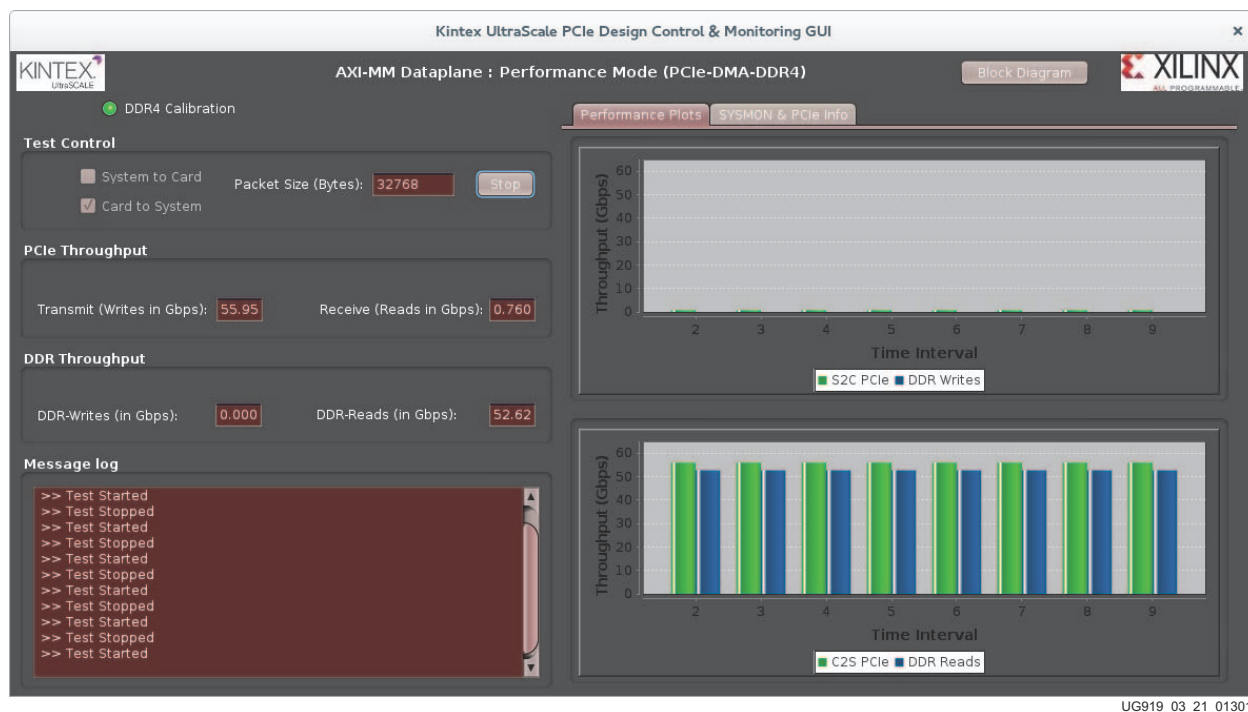

Figure 3-16: Card to System Performance
- b. Data transfer from the FPGA to the Host computer can be started by deselecting the **System to Card** (S2C) Test Control mode and selecting the **Card to System** (C2S) Test Control mode (Figure 3-16). Click **Start**. To stop the test, click **Stop**.